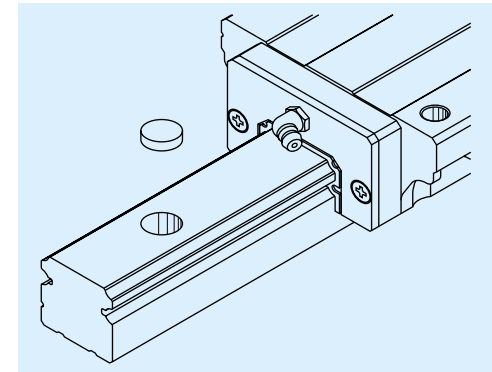

Fig. II-5-6
**(3) Cap to cover the bolt hole for rail mounting**
- After the rail is mounted to the machine base, a cap is used to cover the bolt hole to prevent foreign matters from clogging up the hole or from entering into the ball slide (Fig. II-5-6).